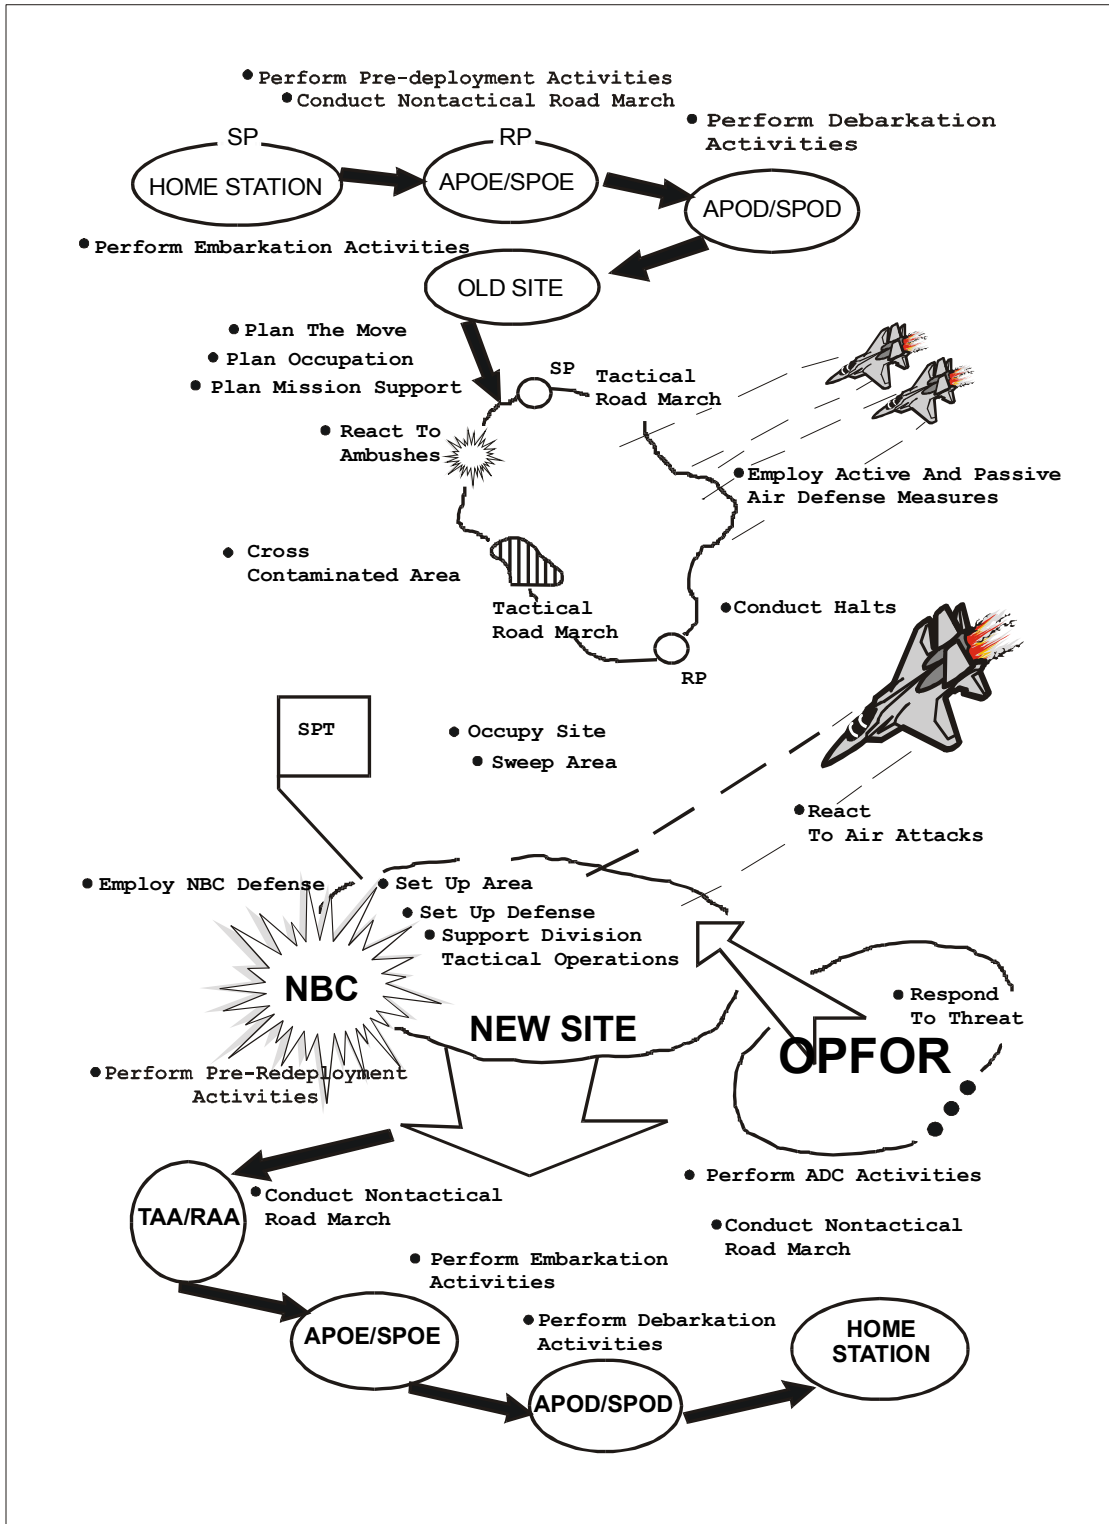

Figure 6-1. Example Graphic Evaluation Scenario
a. **Preparing the Evaluation Instrument.** Prepare the evaluation by developing a scenario containing the major missions and appropriate tasks. Compile the selected missions and tasks in the order they logically occur in the detailed scenario. Group the selected missions and tasks in parts for continuous operations. Parts can be interrupted at logical points to assess MILES casualties and conduct in-process AARs. The sample evaluation scenario in Table 6-1 contains missions, as well as the appropriate tasks necessary to develop the scenario and execute the evaluation. Selective tailoring is required, because it is not possible to evaluate every task. Figure 6-1 illustrates the general scenario of task performances in this exercise. The following procedures are suggested for developing the evaluation.
- (1) Identify the missions for evaluating each echelon or element, using Table 6-1. Record the selected missions on the DA Form 7506 \(Unit Proficiency/Evaluation Worksheet\).
- (2) List each mission on a DA Form 7502 \(Task Summary Sheet\).
- (3) Select the tasks for the evaluation of every mission. List the selected tasks on the Task Summary Sheets, which are used for recording the results of the evaluation.
- (4) Compile the selected missions and tasks in the order they logically occur in the detailed scenario. Group the selected missions and tasks in parts for continuous operations, Table 6-1, Sample Evaluation Scenario. Parts can be interrupted at logical points to assess MILES casualties and conduct in-process AARs.